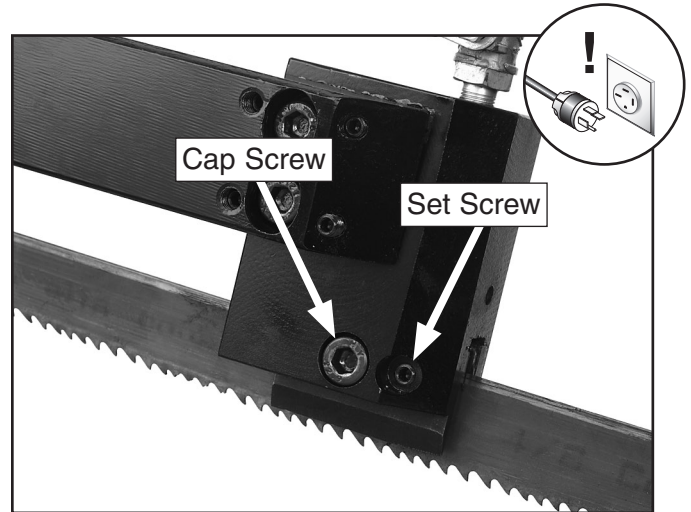

Figure 53. Blade guide.
5. Loosen the blade guide cap screw that holds the blade guide in position (**Figure 53**).